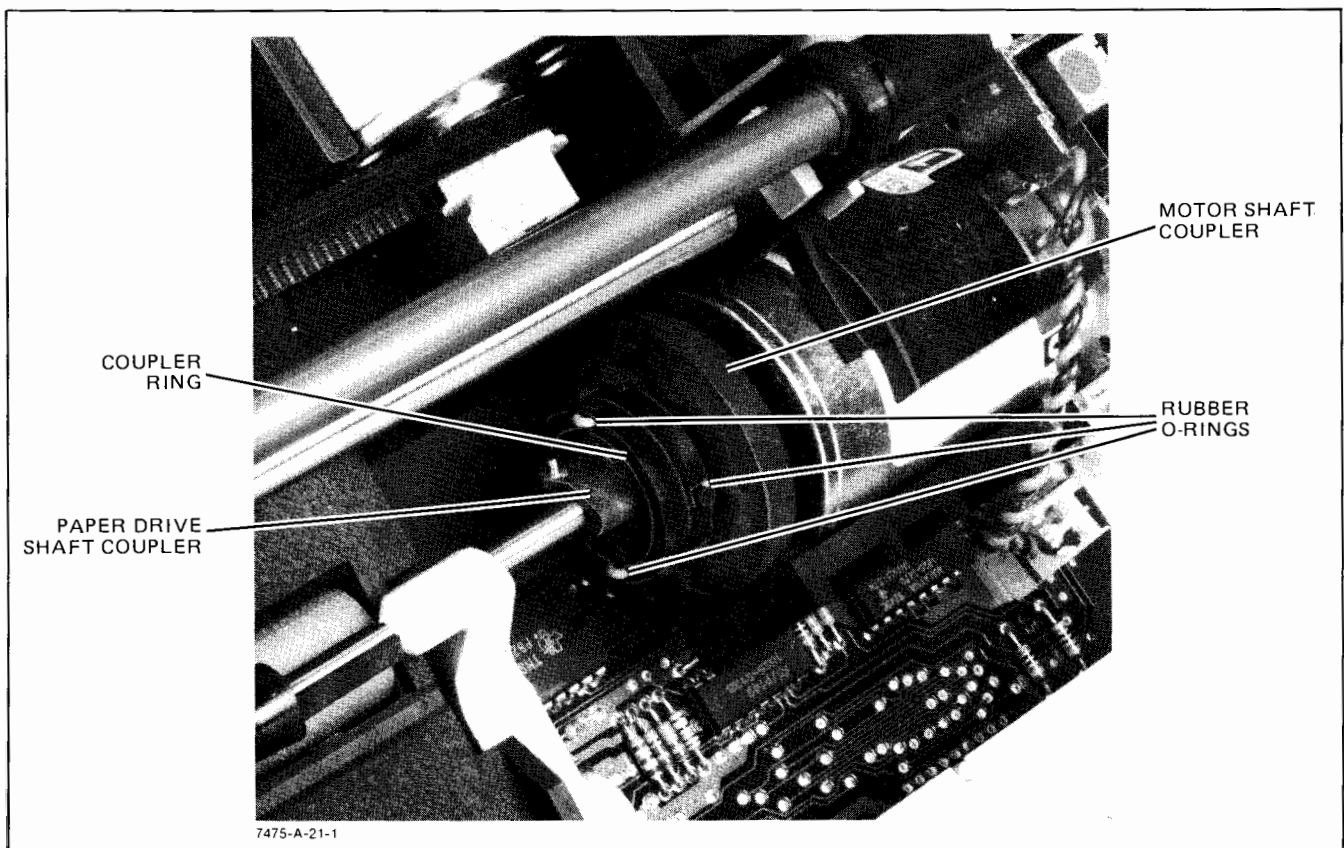

Figure 6-12. Paper Drive Coupler Parts
- e. When replacing the motor, make sure that the rubber O-rings on the drive shaft coupler and the motor shaft coupler fit inside the grooves of the coupler ring, and the boss (key) on the underside of the motor casting fits into the corresponding hole in the chassis. See Figure 6-12.
- e. When replacing the motor, make sure that the O-rings on the drive shaft coupler and the motor shaft coupler fit inside the grooves of the coupler ring, and the boss (key) on the underside of the motor casting fits into the corresponding hole in the chassis. See Figure 6-12.
- f. Replace the paper drive motor, making sure that the rubber O-rings on the drive shaft coupler and the motor shaft coupler fit inside the grooves of the coupler ring, and the boss (key) on the under side of the motor casting fits into the corresponding hole in the chassis. See Figure 6-12.